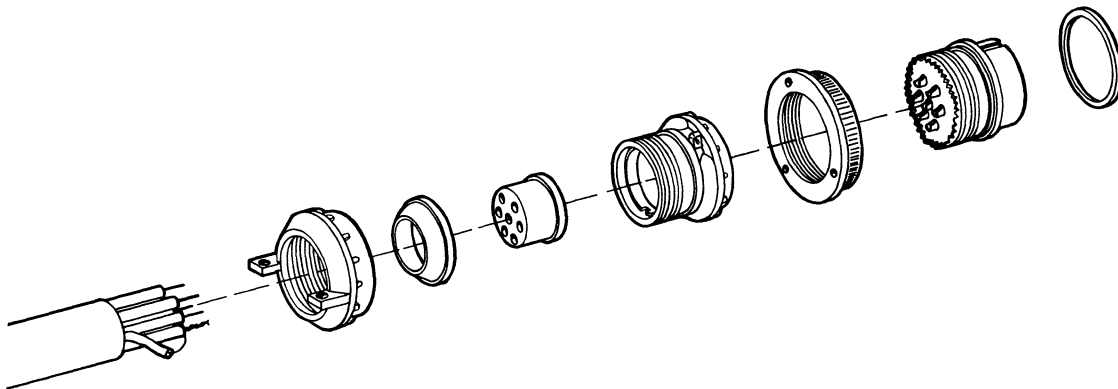

Figure 3. Cable Fabrication Diagram
2.2.1 Obtain enough cable (Belden 8488 or equivalent) to reach from the 32MS-1A to J2 on the 180V-2, and make the connections as shown in figure 8. Refer to figure 3 for cable fabrication diagram.